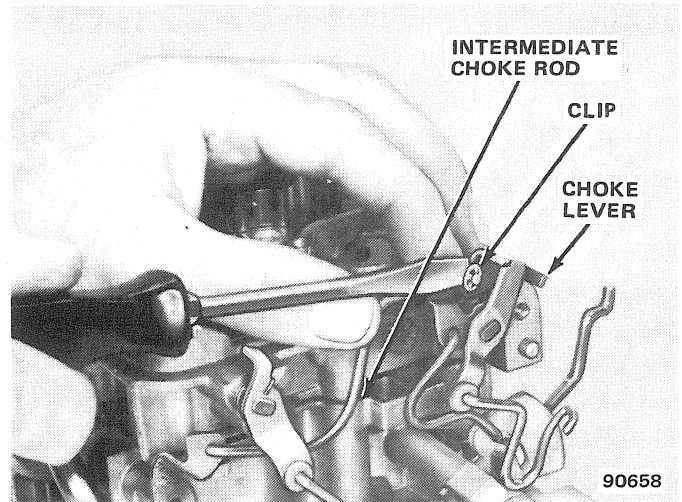

Fig. 1J-29 Model 2SE Carburetor—Choke Rod Removal
(5) If equipped, remove two small screws that retain hot idle compensator valve (fig. 1J-30). Remove valve and seal from air horn, discard seal. Hot idle compensator valve must be removed to gain access to short air horn-to-bowl attaching screw.